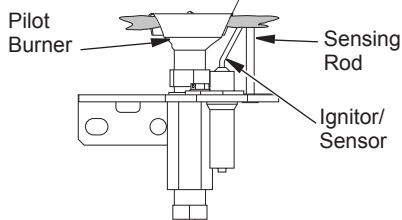

Figure 36 - Correct Pilot Flame Pattern
- Turn adjustment screw marked PILOT clockwise to decrease or counterclockwise to increase flame to proper size (see Figure 36). Do not remove adjustment screw.